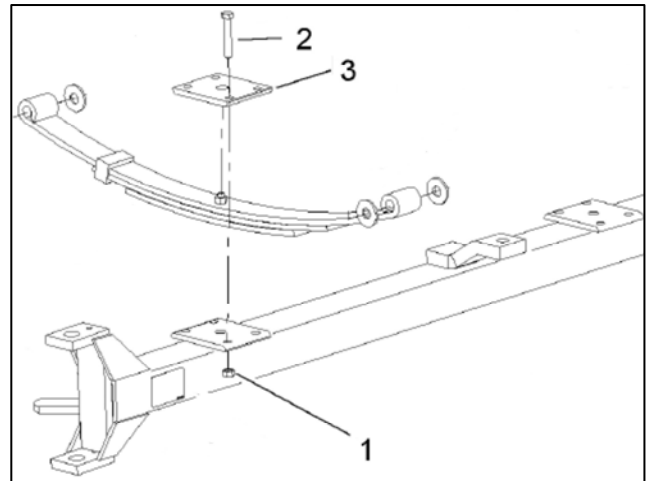

Figure 2
4. Remove the axle hardware and spring plate from one side of the front axle. (Figure 2)
5. Install Spring Plate (112-7822-03) using four Bolts (323-45) and four Lock Nuts (32153-2) as depicted in Figure 2.